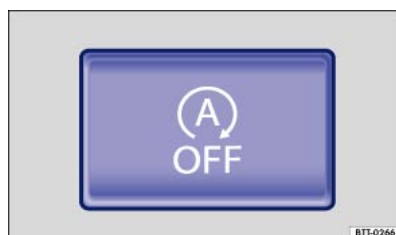

Fig. 121 In the lower part of the centre console: button for the start/stop system.
- Press the button  in the centre console \Rightarrow Fig. 121 to deactivate the system. If the start/stop system has been deactivated, the indicator lamp in the button lights up.
- Press the button  in the centre console again \Rightarrow Fig. 121 to reactivate the system.